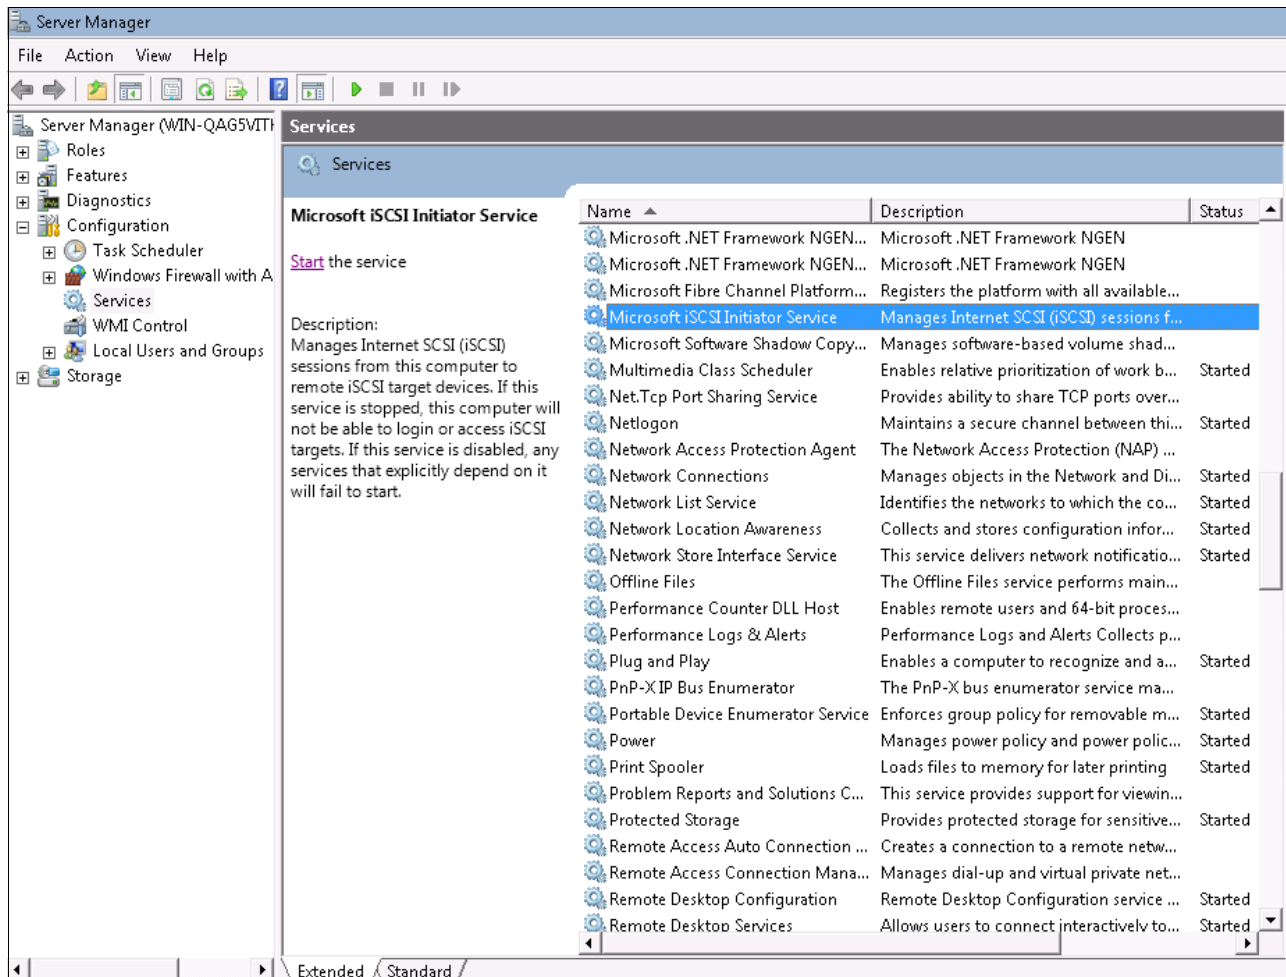

Figure 7-118 Verifying the Microsoft iSCSI Initiator Service
17. Open Windows Services (Figure 7-118):